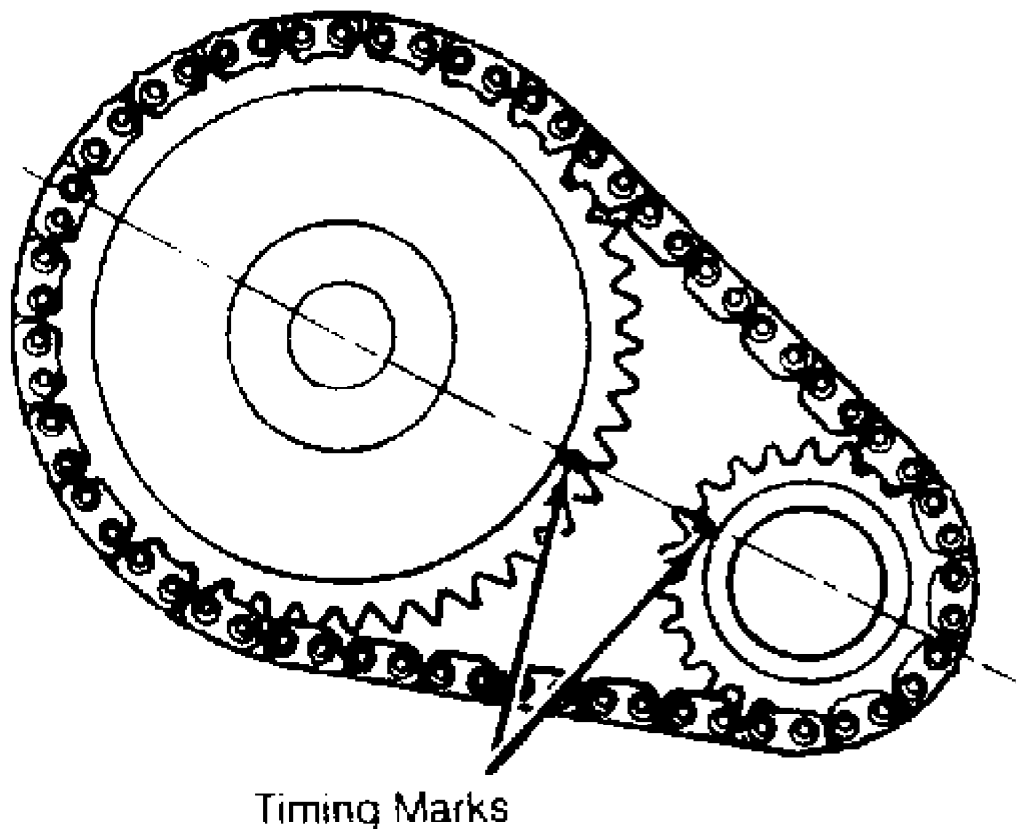

Fig. 4: Timing Chain & Sprocket Alignment
1) Drain cooling system. Remove radiator. Remove engine front cover. See ENGINE FRONT COVER in this article. Remove oil slinger. Rotate crankshaft until timing marks on sprockets are aligned. See Fig. 4.
Install timing chain and sprockets. Ensure timing marks are aligned. See Fig. 4. Install camshaft sprocket bolt. Tighten bolts to specification. Install new front cover oil seal. Reverse removal procedure for remaining components.